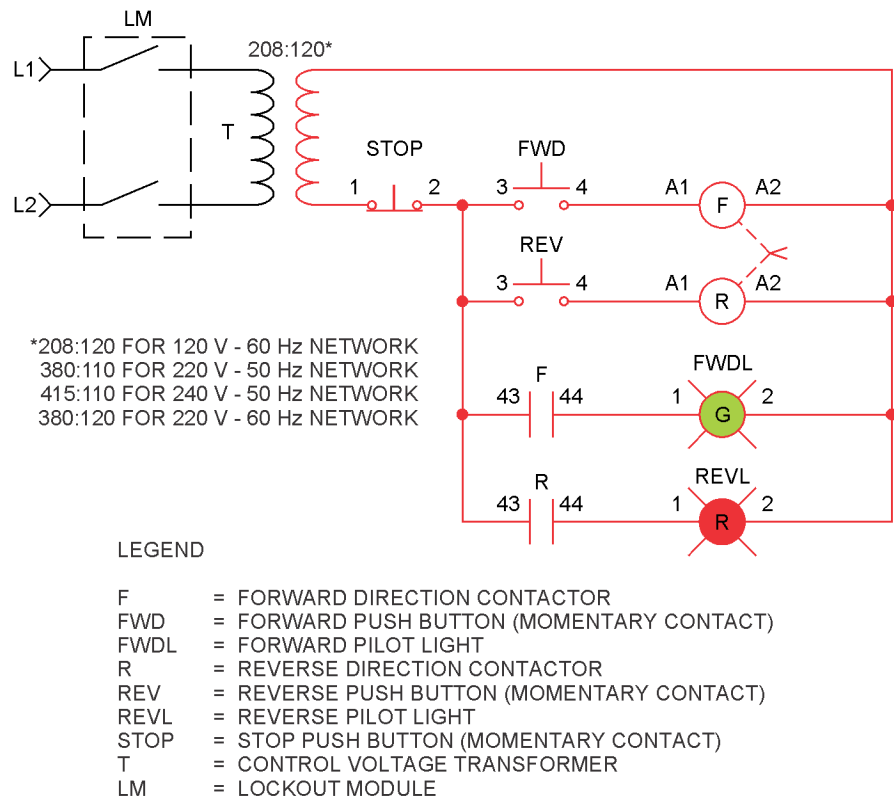

Figure 3-11. Dual contactors testing circuit.
If you refer to the Figure 3-11 circuit, a mechanical interlock (in dashed lines) is located between the two contactor coils. When one of the two contactors is energized, the contacts of the other contactor are mechanically maintained, even if the second coil is energized. This method provides a level of security against short-circuits resulting from stuck contactors. This explains why mechanical interlocks are so common in the industry.
16. Connect the circuit shown in Figure 3-11.